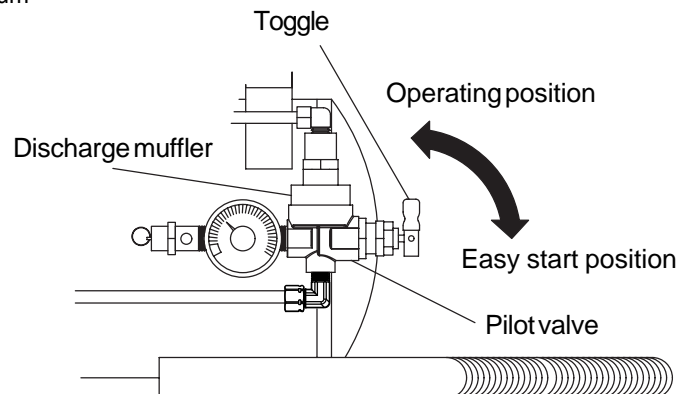

Fig. 4
B) When the toggle is in the upright position, all air from this compressor is vented through the discharge muffler (Fig. 4). This gives an easy start feature. For normal operation, the toggle is in the 90° position.